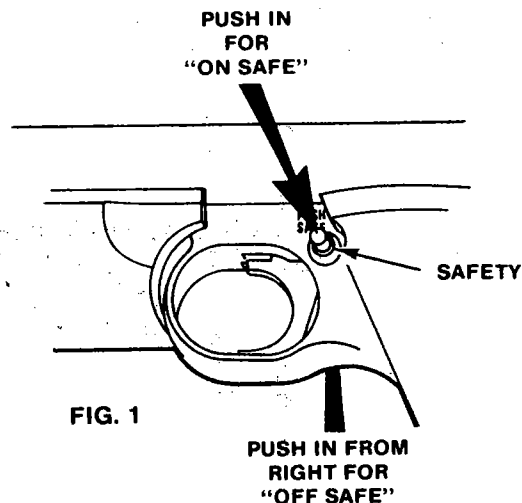

FIG. 1
- A. To put the pistol "On Safe", locate the safety directly behind the trigger. Push the safety from the left side all the way in. (Fig. 1) The safety is not on unless it is pushed all the way in and the red ring around the safety is not showing. The pistol will not fire when "On Safe".